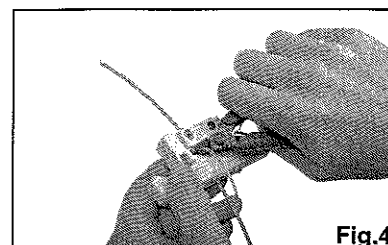

Fig.4
7. When you reach the end of the access point, **cut off the scrap portion of tube before opening or removing the tool.** (Fig.4). Use Miller® 9150 diagonal cutter.